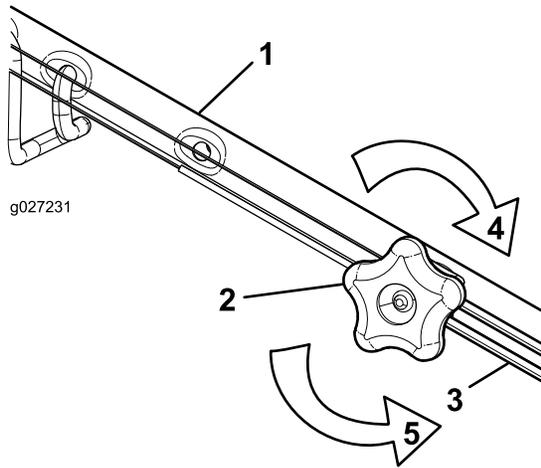

Figure 23
1. Turn the adjustment knob counterclockwise to loosen the cable adjustment (Figure 23).
2. Adjust the tension on the cable (Figure 23) by pulling it back or pushing it forward and holding that position.